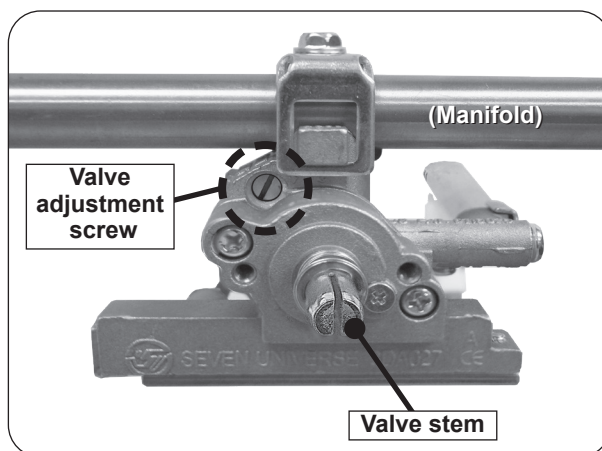

Fig. 40-1 Valve adjustment screw location
5. Locate the FLATHEAD adjustment screw found above the valve stem and below the manifold (see Fig. 40-1).